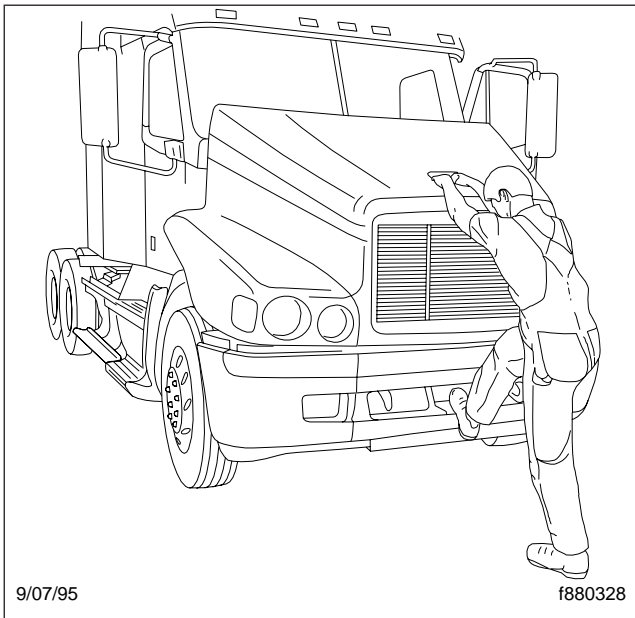

Fig. 3.8, Hood Tilting
3. Using the bumper step and grab handle, slowly tilt the hood until the straps support it. See Fig. 3.8.
2. As the hood goes over center, use the bumper step and grab handle to control the rate of descent to the operating position. See Fig. 3.8.